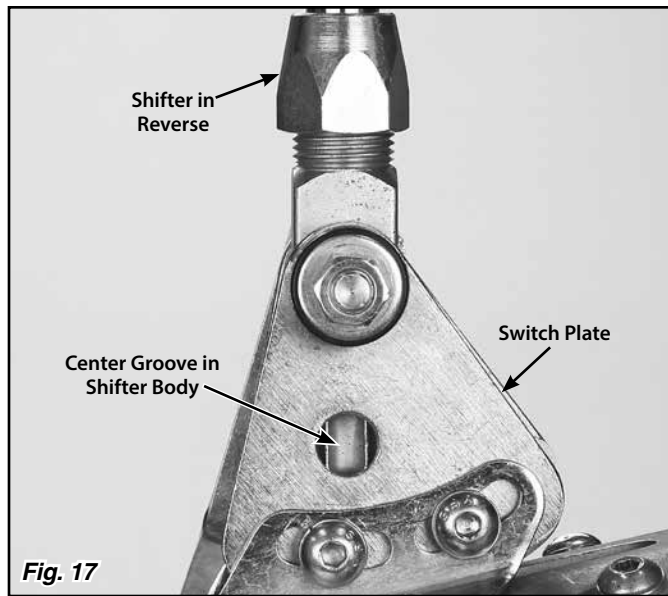
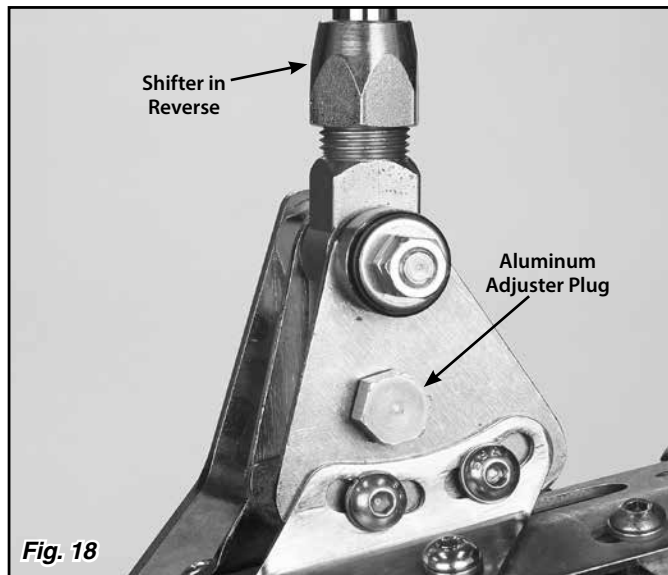

Fig. 17
Fig. 18
**Step 21:** Put the shifter lever into the Reverse position. Reposition the switch plate so the hole in the switch plate lines up with the center groove in the shifter body. **Fig. 17** Screw the provided aluminum adjuster plug into the neutral safety switch opening. Moving the switch plate slightly forward and back while you are screwing the aluminum adjuster plug in will help get the shifter body centered on the adjuster plug. **Fig. 18**